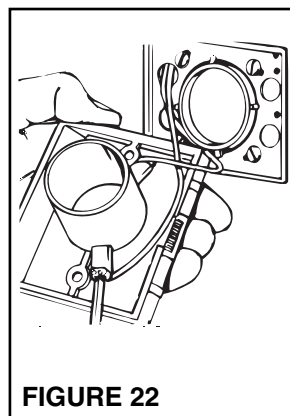

FIGURE 22
2. Refer to figure 22. Connect 2-conductor low voltage wire to terminal screws on back of wall inlet.